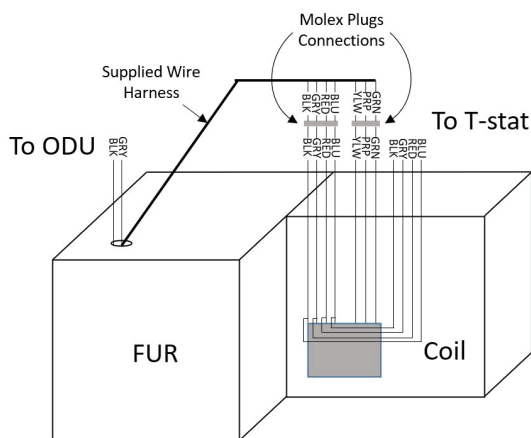

Figure 28
8. View Figure 28 for reference of Wire Harness Setup.
Typical wiring will consist of two wires between the indoor unit and outdoor unit and four wires between the indoor unit and thermostat. Figure 28 shows the